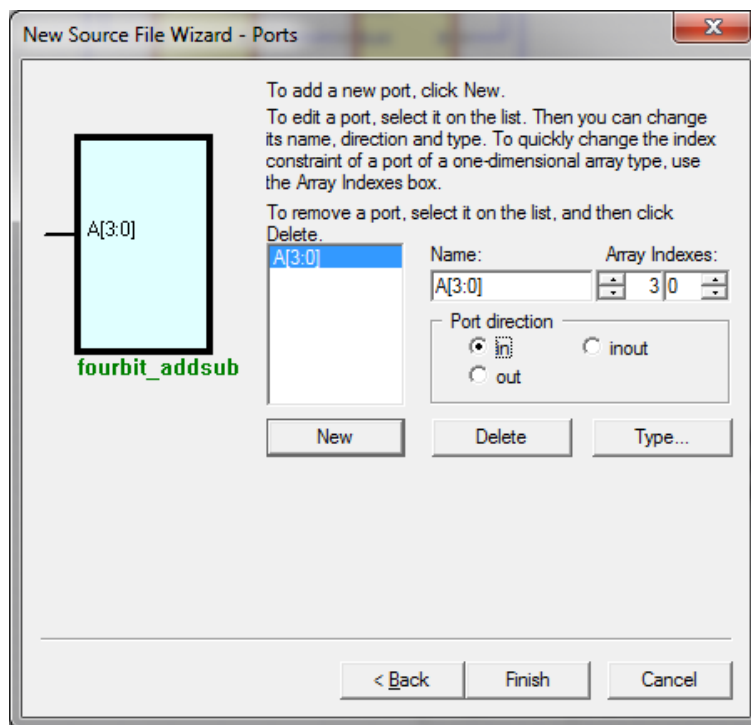

Figure 7
2. To add a multi-bit terminal while in the wizard, type in the name of the terminal and select whether it is an input or output terminal. Now in the “Array Indexes” fields, place a 3 in the field on the left (the “to” field), and a 0 in the field on the right (the “from” field). You can enter in the numbers or use the arrow buttons to the right of each field. The fields will read “from 0 to 3”, or in other words, a 4-bit port (see Figure 7). To add multi-bit terminals in the schematic, click the drop down arrow next to the Terminals icon in the toolbar. Mouse over the options, select the desired terminal, and drop it into the schematic. Double-click the terminal in the design, and adjust the “Index Range” fields in the Terminal Properties window (not shown) to the desired number of bits.